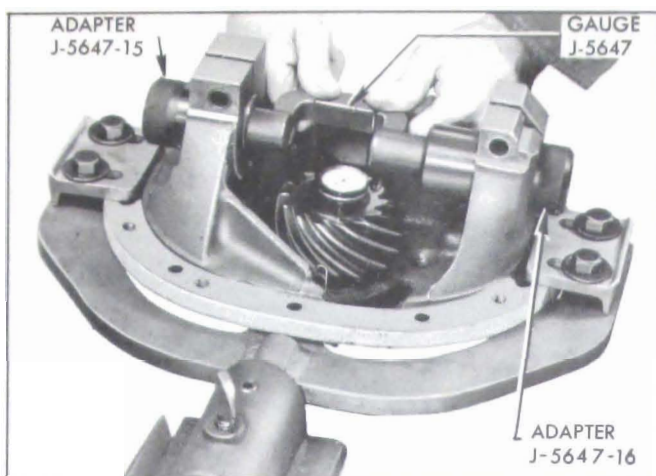

Figure 6-26—Checking Pinion Setting
8. Drive a wedge into each pedestal split and spread them just enough so that Adapters J-5647-17 will slip in. Then place the indicator gauge in the carrier as follows: (see Figure 6-26).